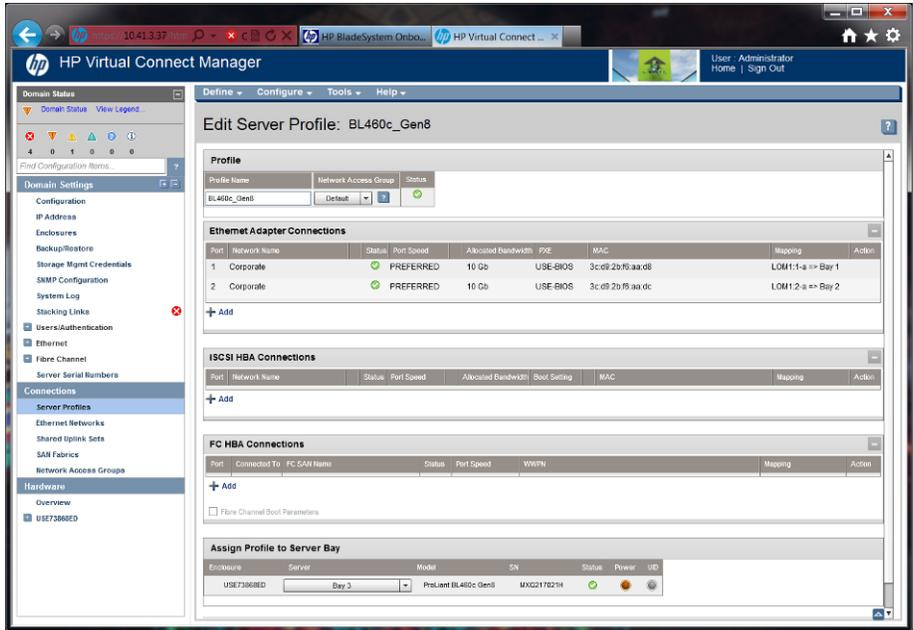

Figure 21: Editing the server profile.
2. On the profile assigned to the BL460c G6 (or the first blade server you wish to edit), click Edit. (See Figure 21.)